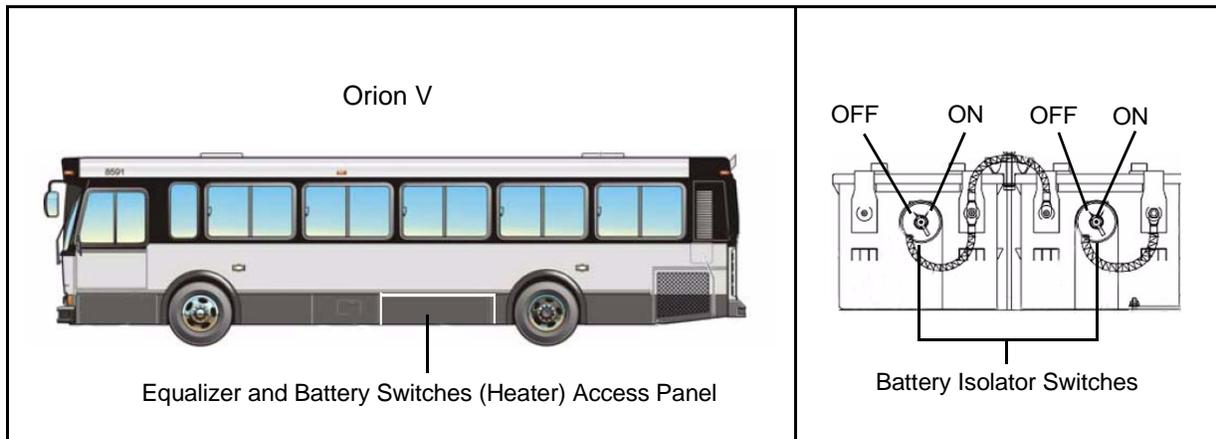

Figure 1-1 Orion V Equalizer Access Panel/Battery Isolator Switches
1. Open the equalizer and battery switch access panel located on the road side of the vehicle. **See Figure 1-1.**
2. Turn the battery isolator switches to the "OFF" position. **See Figure 1-1**
5. Close the battery switch access panel. **See Figure 1-1.**